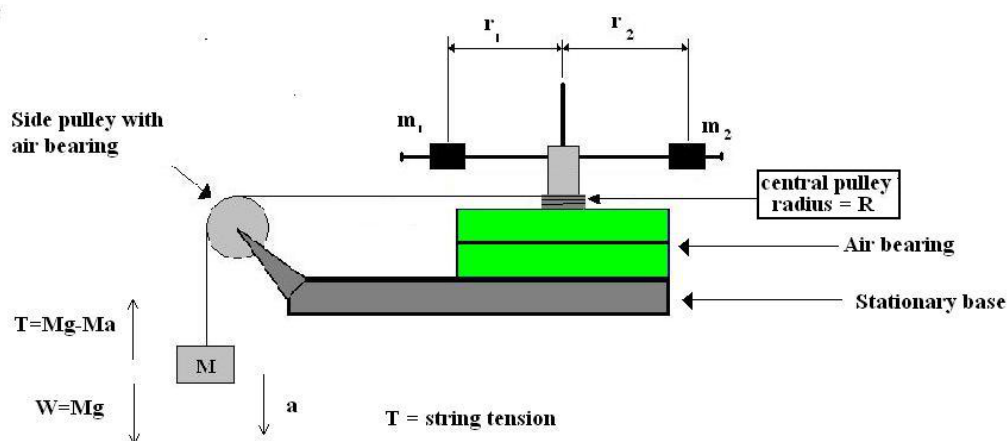
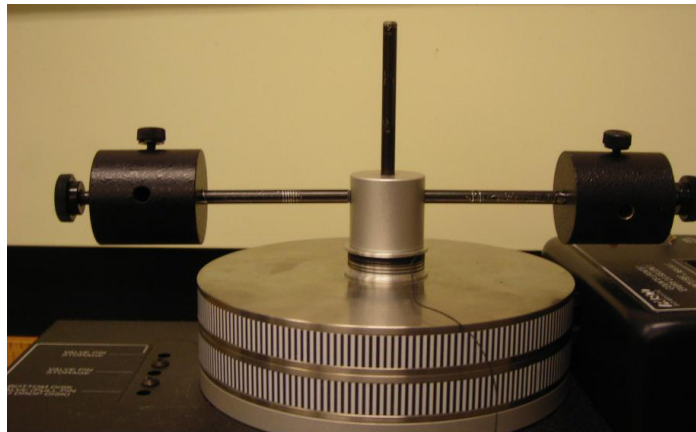

Figure 8.3: Schematic of the moment of inertia apparatus.
Figure 8.5: View of the apparatus with 2 masses at the same radius  $r$ .
A schematic of the equipment you will be using today is shown in Fig. 8.3. The masses and rod are supported by a rotating platform attached to a central pulley and nearly frictionless air bearings. If the two masses are placed on the axis of rotation (so  $r = 0$ ), then the measured moment of inertia  $I$  is the moment of inertia of the rotating apparatus *alone* plus the moment of inertia of each of the two cylinders about an axis through their own centers of mass, which we'll call  $I_0$ . So when the masses are placed at  $r = 0$ ,  $I = I_0$ . Now if the two masses are each placed a distance  $r$  from the axis of rotation Eq. 8.4 becomes:
To verify that the moment of inertia,  $I$ , does indeed depend on how the masses are distributed you will use the apparatus shown in Fig. 8.3 to calculate the angular acceleration,  $\alpha$ , and torque,  $\tau$ , of the rotating masses and then use Eq. 8.2 to calculate  $I$ . You will plot your measured  $I$  vs.  $r^2$
In order to get your rigid body to rotate you will wrap a string around the central axle (also called the central pulley) and run it over the side pulley to a known weight,  $M$ , as shown in Fig. 8.3. When you release the weight from rest just below the side pulley and let it fall to the floor, the tension,  $T$ , in the string will exert a torque,  $\tau$ , on the rigid body causing it to rotate with a constant angular acceleration,  $\alpha$ . **NOTE:** Be careful to not mix up the symbol for tension ( $T$ ) with the symbol for torque ( $\tau$ ) and the symbol for linear acceleration ( $a$ ) with the symbol for angular acceleration ( $\alpha$ ) in the following equations.
The tension in the string,  $T$ , comes from the weight which is hanging off the side pulley (see Fig. 8.3). By drawing the free-body diagram acting on the hanging mass and using Newton's Second Law, the tension in the string is:
2. Place the cylinders on the horizontal rod such that the axes of the cylinders are along the horizontal rod as far away from the center as possible (as shown in Fig. 8.5). Make sure the thumbscrew on each cylinder is tightened. The center of mass of each cylinder MUST be the same distance ( $r$ ) from the axis of rotation (i.e.  $r_1 = r_2$  in Fig. 8.3).
4. With the air supply on, attach the hanging mass ( $M$ ) to one end of a string and wind the other end around the central axle (pulley). The string should also pass over the side pulley such that the hanging mass is just below the side pulley as shown in Fig. 8.3. Hold the hanging mass stationary and measure its height ( $h$ ) using the floor as your reference point. Record this elevation in your spreadsheet and assign an appropriate uncertainty to this measurement. **Make sure to return your mass to this same height for each of your trials.**